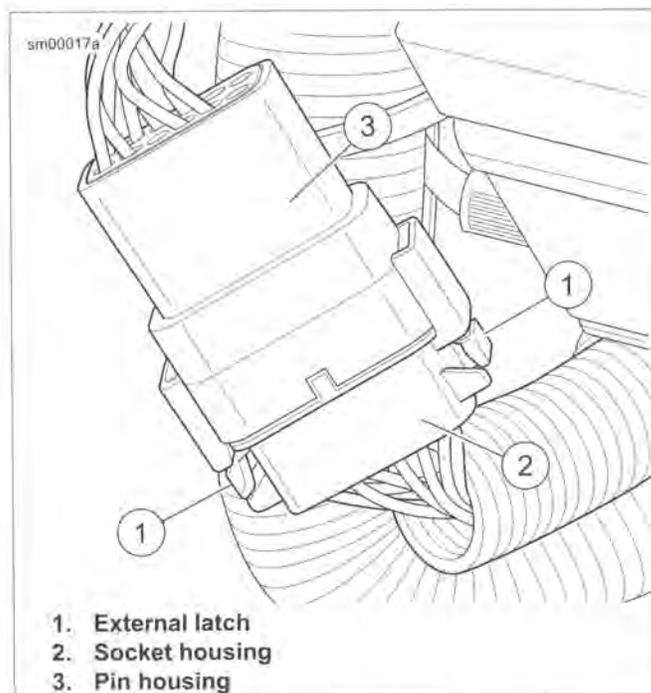

Figure A-30. Deutsch DT Sealed Connector
See Figure A-30. To separate the connector halves, Press the external latch(es) (1) on the socket housing (2) while rocking the pin (3) and socket housings.